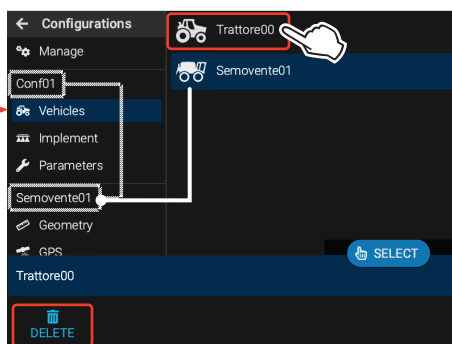

Fig. 34
The vehicle in use is highlighted, example **Self-propelled00** in Fig. 34.
- Press the vehicle to be deleted (Fig. 34).